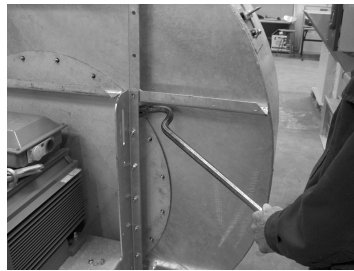

Fig. 10
3. Pull rotor and motor bracket out of the fan housing. It may be necessary to use a crowbar to loosen the sealing plate from the housing. See fig. 10 and 11. Check that the pallet truck is set to the correct height. When retracting the rotor, it is recommended to stop 100 mm before the motor bracket slides